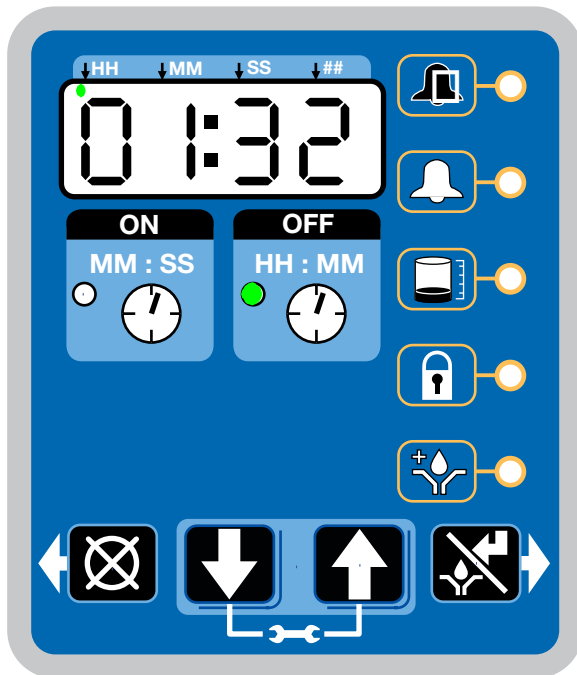

FIG. 33
After setup is complete, the G3 automatically begins to run the OFF Time sequence (FIG. 33).
- The example shown in FIG. 33 shows an OFF Time of 1 hour and 32 minutes before the lubrication cycle begins.
- When the ON Time count reaches zero, the pump shuts off again and the system again runs OFF Time cycle and the OFF Time LED is now again illuminated (FIG. 33).